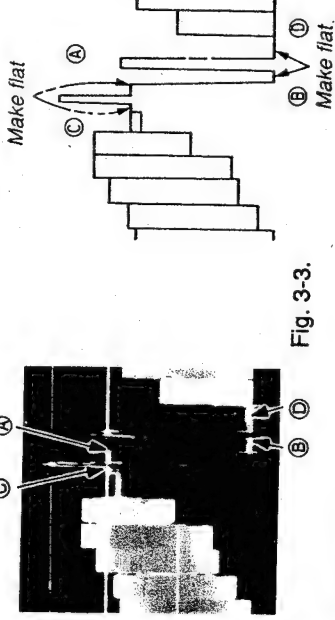

Fig. 3-3.
Adjust RV1 of BH board so that the (C) (0 IRE level) coincides with (A) (Black level) as shown in Fig. 3-3.
10. Adjust RV3 of BH board so that the (D) (100 IRE level) coincides with (B) (100% white level) as shown in Fig. 3-3.